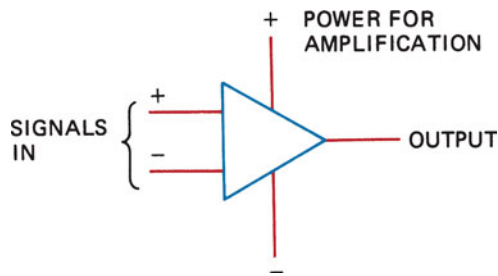

FIGURE 12-29 Symbol for an operational amplifier (op-amp).
Operational amplifiers (op-amps) are used in circuits to control and amplify digital signals. Op-amps are frequently used for motor control in climate control systems (heating and air conditioning) airflow control door operation. Op-amps can provide the proper voltage polarity and current (amperes) to control the direction of permanent magnetic (PM) motors. The symbol for an op-amp is shown in ● FIGURE 12-29.